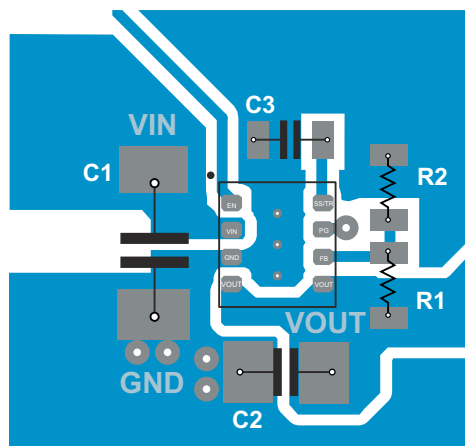

Figure 10-1. TPS82130 PCB Layout
- Refer to Figure 10-1 for an example of component placement, routing, and thermal design.